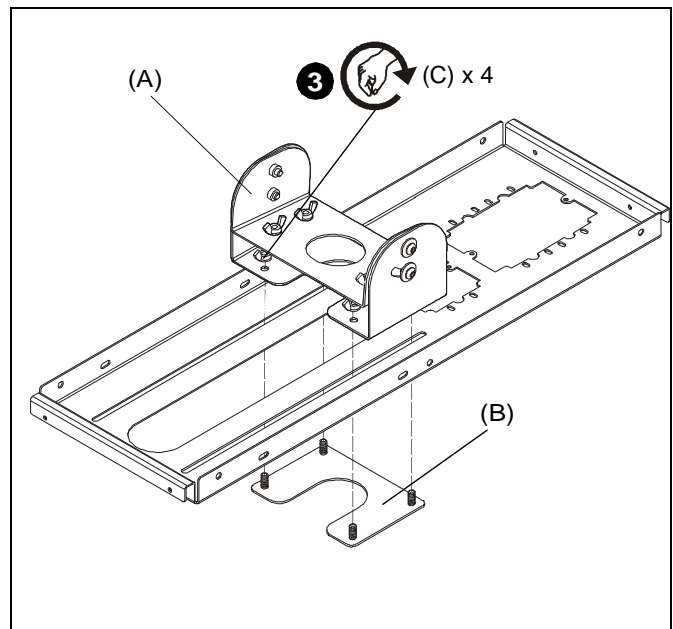

Figure 3
2. Reuse four 1/4-20" wing nuts removed in Step 1 to secure removed CMS440 extension column support and CMS440 lower bolt plate to CMS495 (A). (See Figure 3)
3. Use four 1/4-20" wing nuts (C) to attach CMS495 adapter (A) and lower bolt plate (B) to CMS440 plate. (See Figure 3)